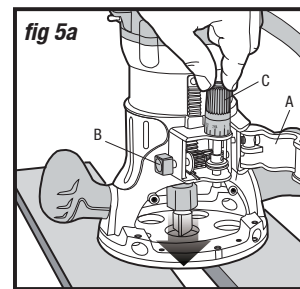

fig 5a
3. Loosen the Motor Clamp (A).
4. With the cutter bit already installed, press the Rough-adjustment Knob (B), and lower the motor into the base until the cutter bit is very close to the flat surface on which the base is sitting.
5. Turn the Micro-fine Adjustment Dial (C) until the cutter bit "just" touches the flat surface on which the base is sitting.
9. Place the router on two level scrap workpieces, positioned so that the cutter bit can be lowered below the sub-base (fig 5a).